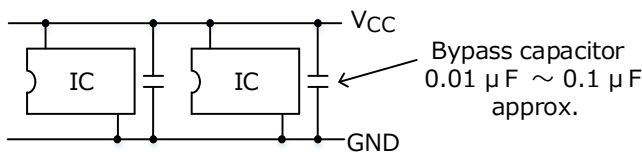

Figure 4.2 Bypass capacitor
- Place a bypass capacitor between and as close as possible to the V_{CC} and GND pins of the CMOS logic IC (Figure 4.2).